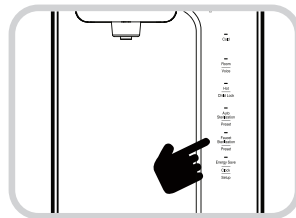

Fig. 18
2. Press the Faucet Sterilization/Preset button if the Faucet Sterilization/Preset button Display Lamp is OFF. (Fig. 18).